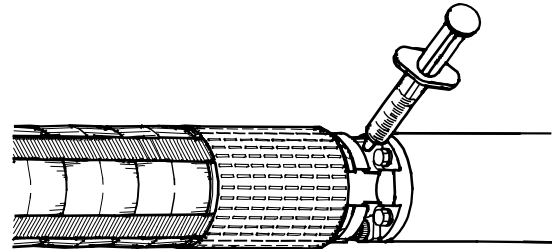

Fig. 7 Position of filling valve
1. Prise out the filter in front of the valve at the top of the motor using a screwdriver. If the filter is slotted, unscrew. The position of the filling valve is shown in fig. 7.
2. Press the filling syringe against the valve and inject the liquid, fig. 7. If the valve cone is depressed too far, it may be damaged thus causing the valve to leak.